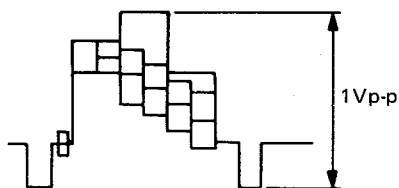

Figure 40.
- 3) Adjust R204 (EE level) as shown in Fig. 40.